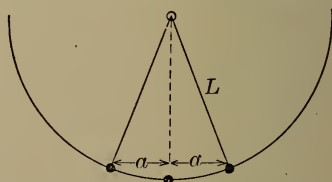

FIGURE 284. — THE PENDULUM.
**305. Pendulum.** — A pendulum is a body supported from a pivot and free to swing because of its weight. (Figure 284.) *L* represents the length of the pendulum;